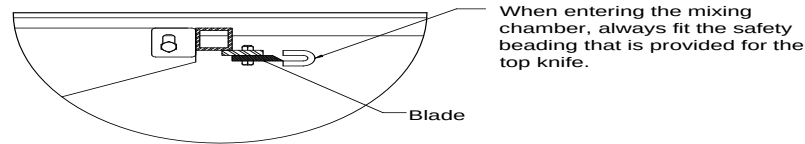

Figure 3a: Top Knife
- r) The top knife should always be fitted with the supplied guard (figure 3a) before routine cleaning or maintenance is carried out. *Note: the machine is supplied with a top knife guard which can be found inside the driveline covers of the mixer wagon.*